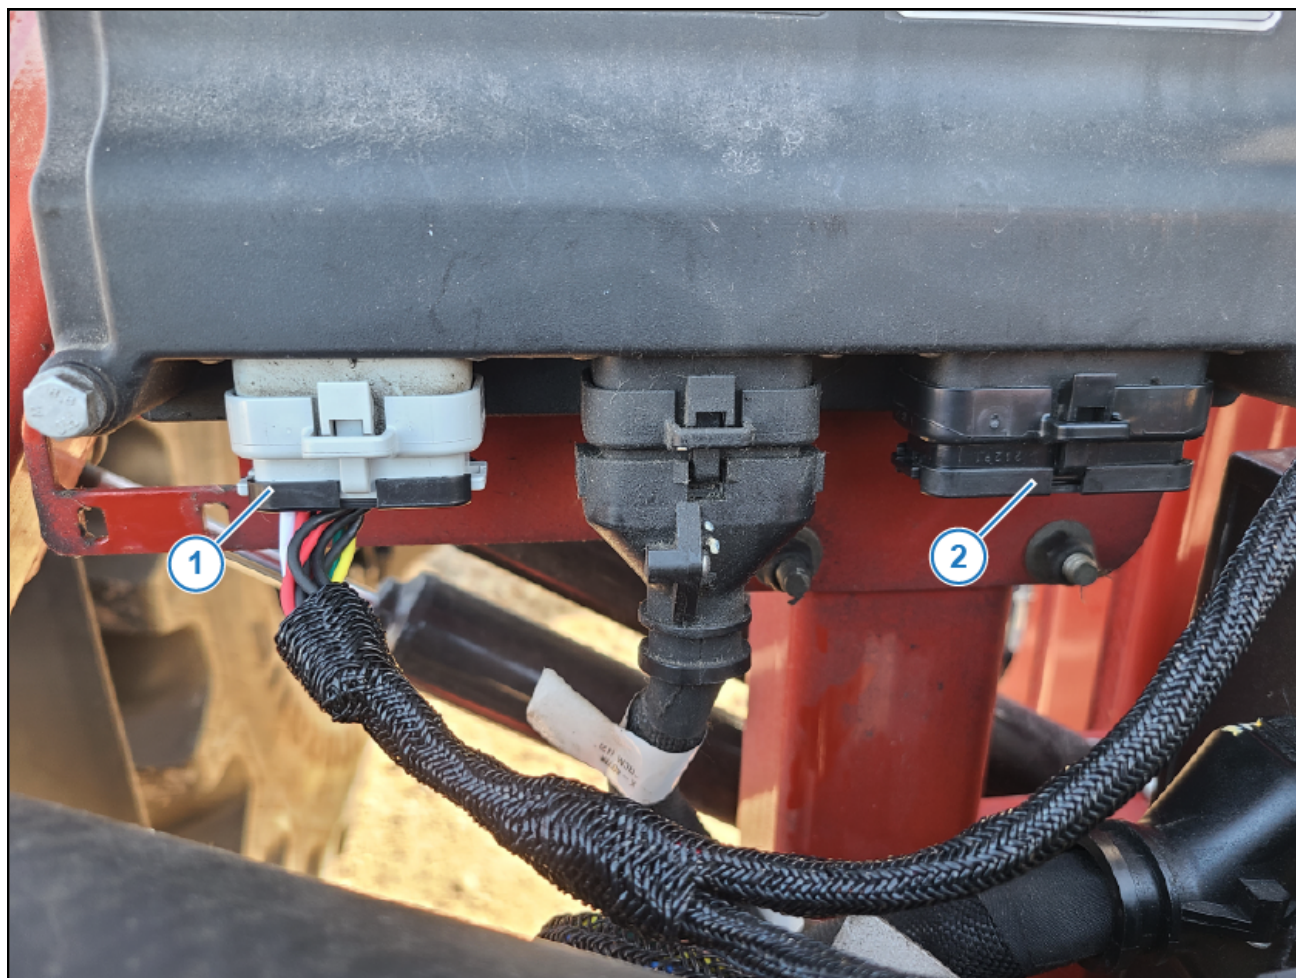

Figure 4: Chassis Harness RCM Connection
5. Insert the J1 plug from the RCM Adapter Harness (P/N 123100-044) into the machine's RCM (Figure 4, Item 1). Install a dust plug in the open RCM J3 port (Figure 4, Item 2).